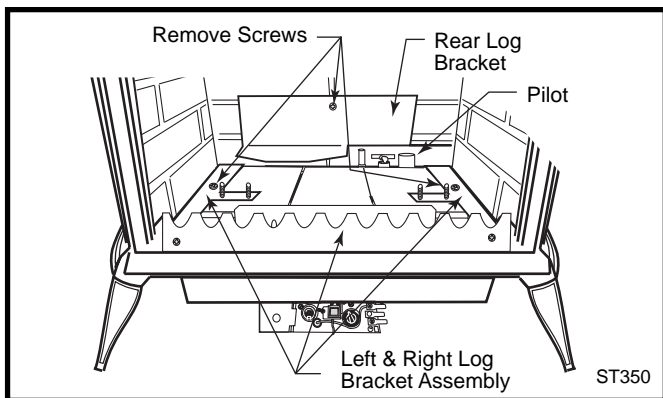

Fig. 43 Remove rear log bracket and left and right log bracket assembly.
5. Remove the rear log bracket by unfastening the screw. (Fig. 43)
6. Remove the right and left log bracket assembly by unfastening the two screws which hold the burner in place. (Fig. 43)